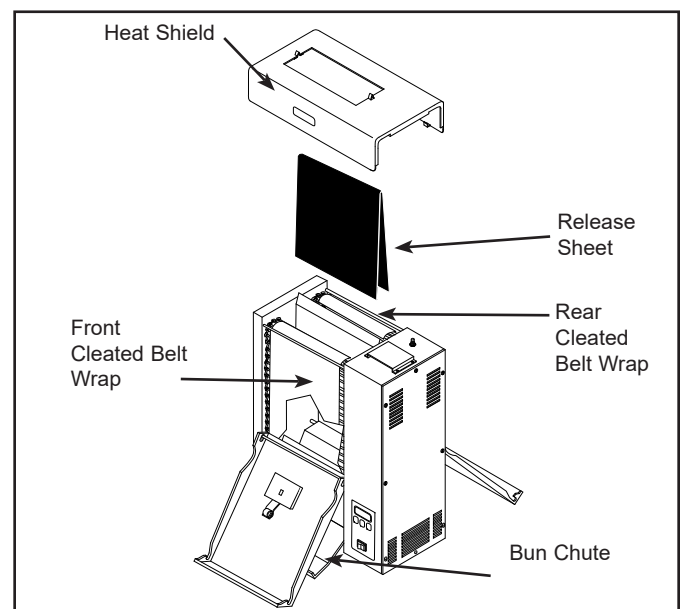

Figure 1. Components
2. Put on heat resistant gloves. Remove Heat Shield, and Bun Chute (Figure 1). Wipe them with a damp, sanitized towel and allow them to air dry.